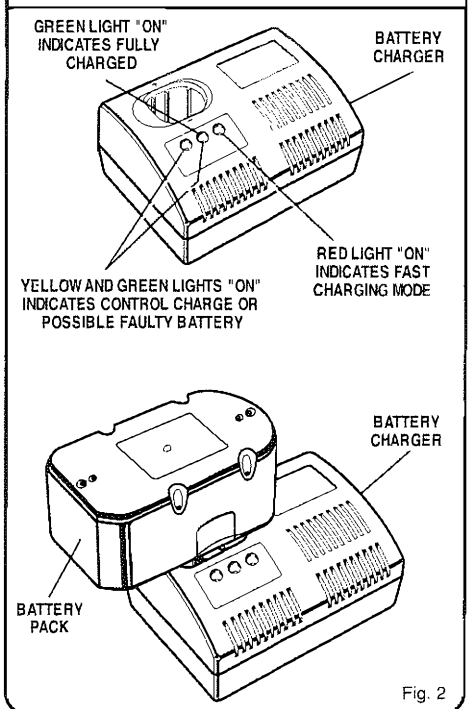

Fig. 2
See Figure 2.
- Place battery pack in charger. See Figure 2. Align raised rib on battery pack with groove in charger.